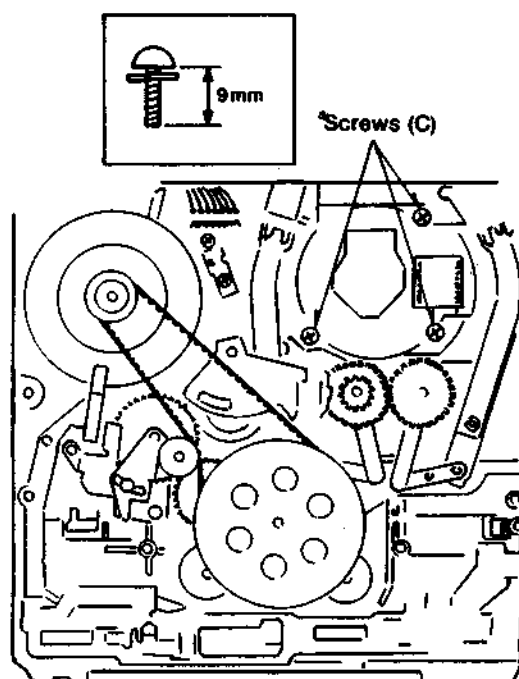

Fig. 1-11
- Remove screw (B) to take out the earth holder.
- Remove the 3 screws (C) to take out the scanning unit (with the cylinder drive CBA) see Fig. 1-11.